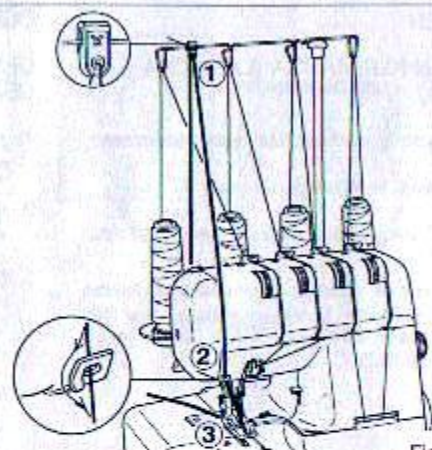

Fig. 1
2. Place a "filler" cord, such as a crochet cotton, gimp, wool, knitting yarn, or shirring elastic at the rear of the machine spool pin. Pass the cord through the cord guides (1) and (2) and then through the left needle thread guide (3). See Fig. 1.